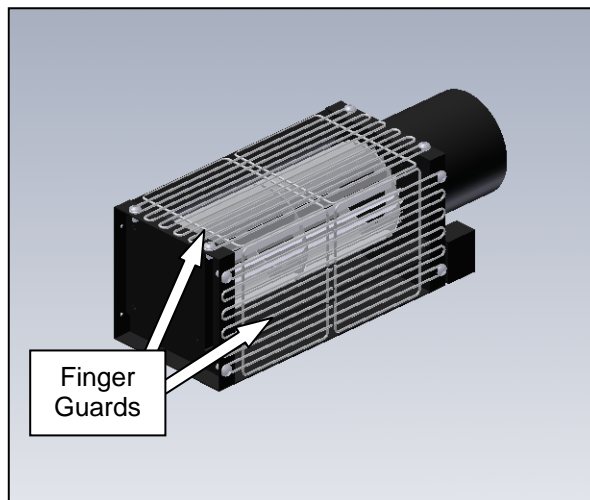

Figure 3-271. Cross Flow Fan Finger Guards
4. Remove the two finger guards from the fan, and reinstall on the new fan (Figure 3-271).